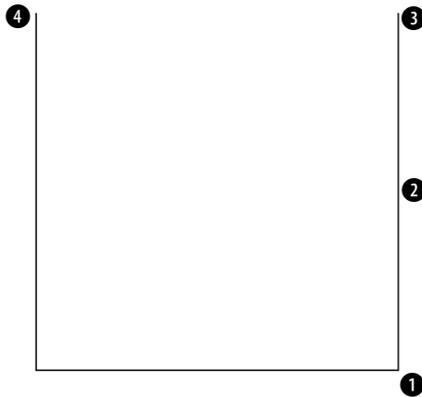

Figure 4-20: These three lines are the start of a mounting bracket.
Your drawing should look like Figure 4-20. The circled numbers are reference points for this exercise.
_endpt of Move the cursor to ❶ in Figure 4-20. When you see the endpoint marker and AutoSnap tooltip, click.